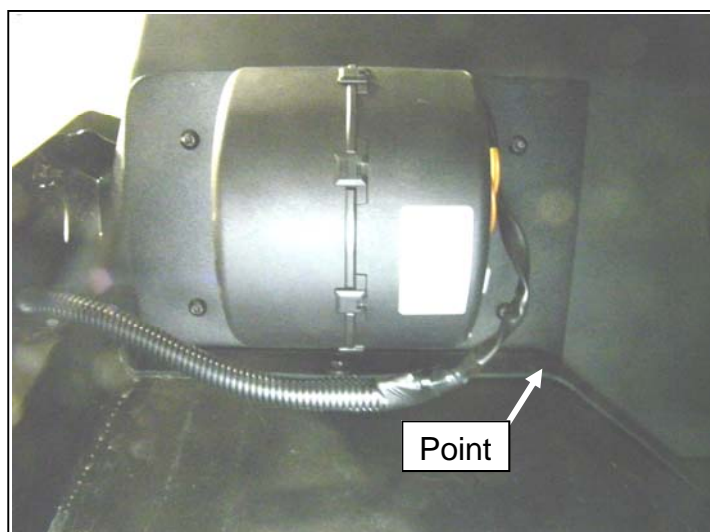

FIGURE 1.3 (Fan to be installed later)
3. Using Fan Mounting plate as a template, place it under the driver's side dashboard of the vehicle as show in Figure 1.3 (make sure point on mounting plate follows contour on underside of dashboard).